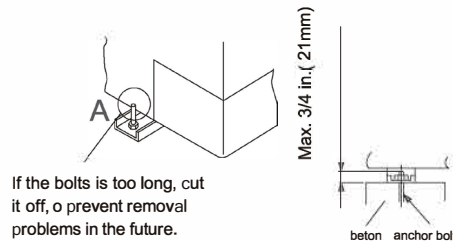

Fig.2
- (3) Fasten the outdoor unit as shown in Fig.2.
- (4) Make sure to fasten the outdoor unit tight and level to prevent noise from occurring.
- (5) Do not drain off water to the public places to hazardous slips/falls.